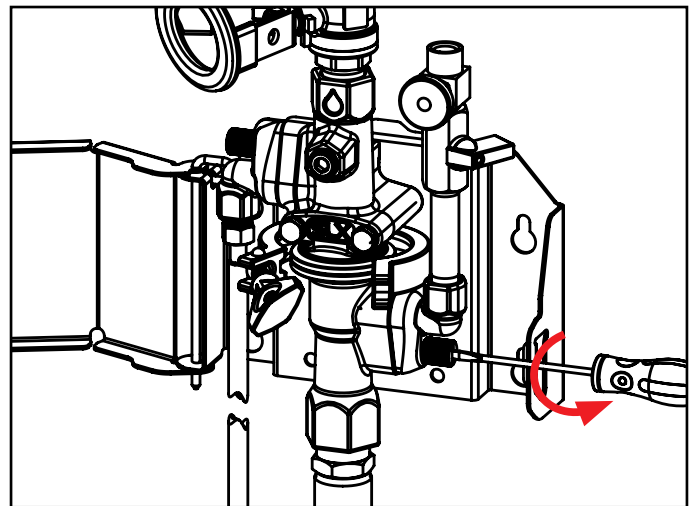

Fig. 9.2: Loosening thumb screw on elbow (air inlet)
3. Loosen the thumb screw on the elbow by hand or using a flathead screwdriver. [Fig 9.2]